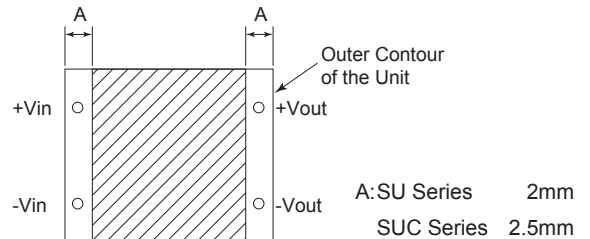

Fig.6.1 Area where Pattern Layout should not be Placed for SU/SUC
■ Do not place a rand or a pattern layout in the hatched area shown in Fig. 6.1, 6.2. Doing so may cause insulation failure on the PCB surface on which the power supply is mounted.